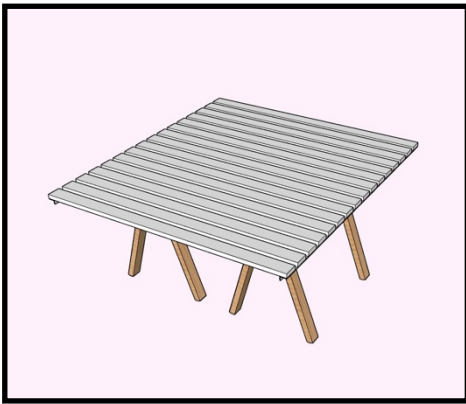

Fig 1
2. The process for cutting down a screen is shown in Fig 1 – 6 (see below).